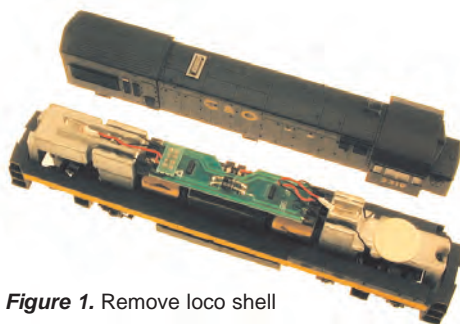

Figure 1. Remove loco shell
1. Carefully remove the locomotive shell (Fig. 1). Note the orientation to the frame for correct reinstallation.